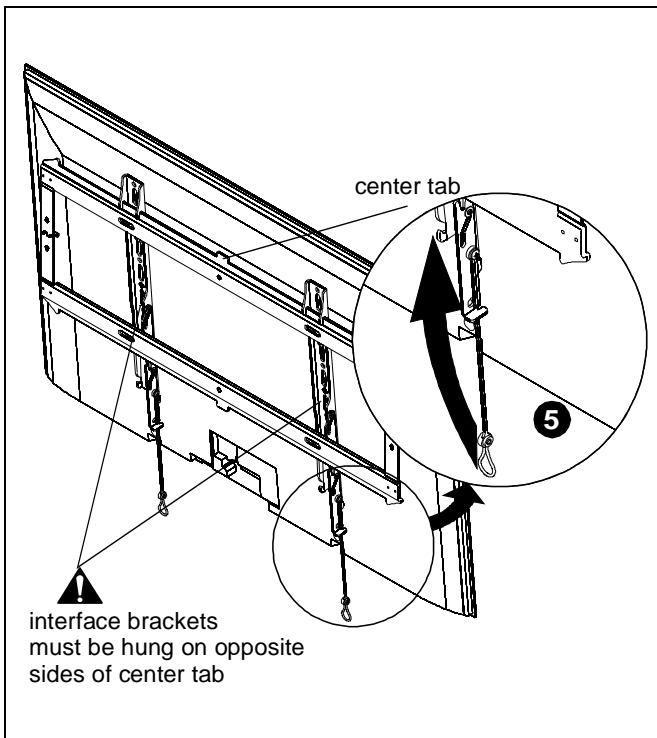

Figure 9
**WARNING:** Interface brackets must be hung on opposite sides of the center tab on wall plate! (See Figure 9)
5. Straps can be tucked behind display on notch on interface brackets (B) after installation is complete so that they will not be visible to the viewer. (See Figure 9)